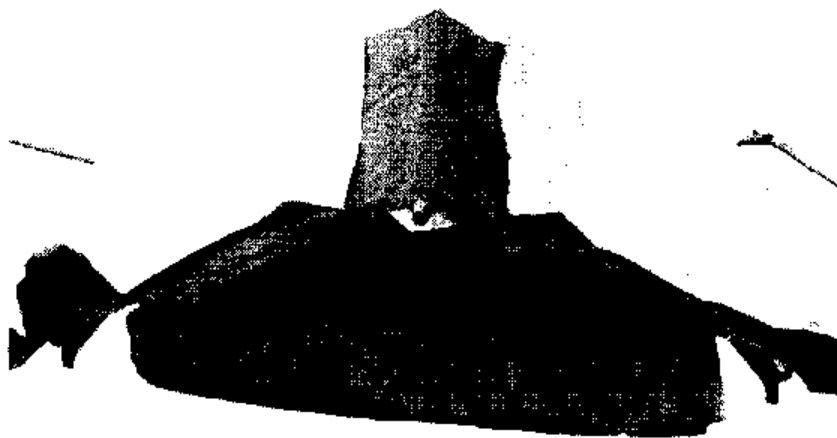

Fig 16 End wall insulation panel
13.3 Attach the remaining end wall insulation panels at each end. Viewed from the outside the outer end wall panels must overlap the centre panel Fig 16.